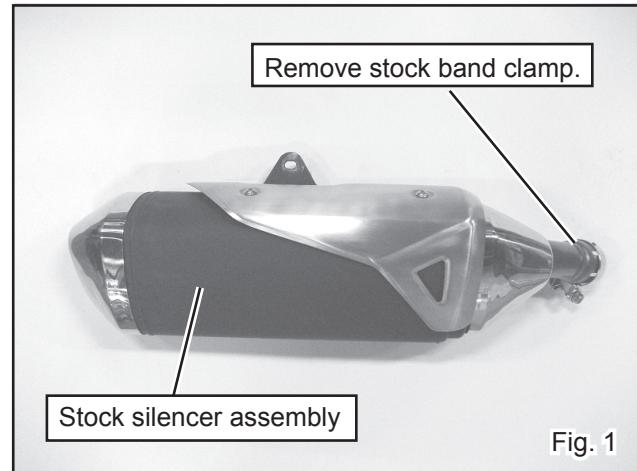

Fig. 1
- 3) Remove the stock band clamp from the stock silencer assembly. (See Fig. 1)